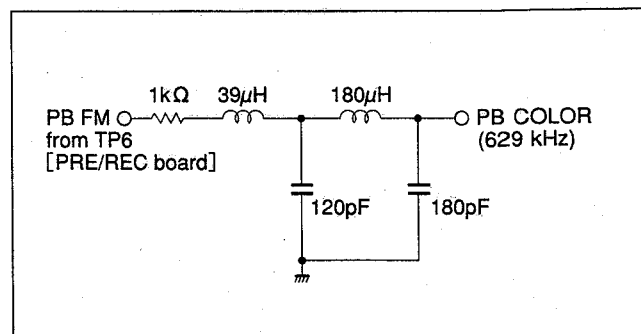
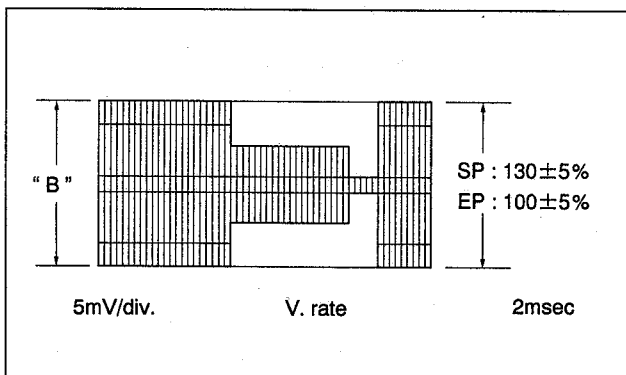

Fig. 3-4-7 LPF
Fig. 3-4-8 REC color level
- (1) Use a LPF as shown in Fig. 3-4-7.
- (2) Playback the SP (EP) color bar signal of MH-1H alignment tape.
- (3) Set the tracking of the Front panel to the Auto tracking off position by simultaneously pressing the CH "-" and "+" buttons.
- (4) Adjust by pressing the CH "-" or "+" buttons of the Front panel for maximum level of the color waveform and make a note of the higher color level "B".
- (5) Press the STOP/EJECT button and eject the MH-1H alignment tape.
- (6) Set EVR mode by pressing "K" button of the presetting unit more than 2 seconds.
- (7) Set "A : 2" by pressing 2 numeric key of the remote controller.
- (8) Record a color bar signal in SP (EP) mode, and playback recorded color bar signal.
- (9) Before recording, adjust CH "-" or "+" button of the remote controller so that the higher level channel becomes $130 \pm 5\%$: SP ($120 \pm 5\%$: EP) of the note "B" level during playback as shown in Fig. 3-4-8.
- (10) Set normal VCR mode by pressing "K" button again so adjustment data is memorized.